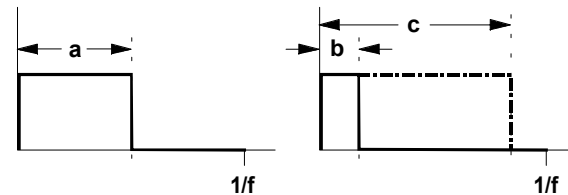

Fig 2: Square waves with different pulse widths
The further the pulse width deviates from 50% (see Fig. 2, b and c), the weaker the lower harmonics become, and the more the sound gets thin and nasal.
④ PW
You use control ④ to alter the pulse width of the square wave appearing at output ⑥ (see Fig. 2 and ⑥).
⑤ PW CV 2